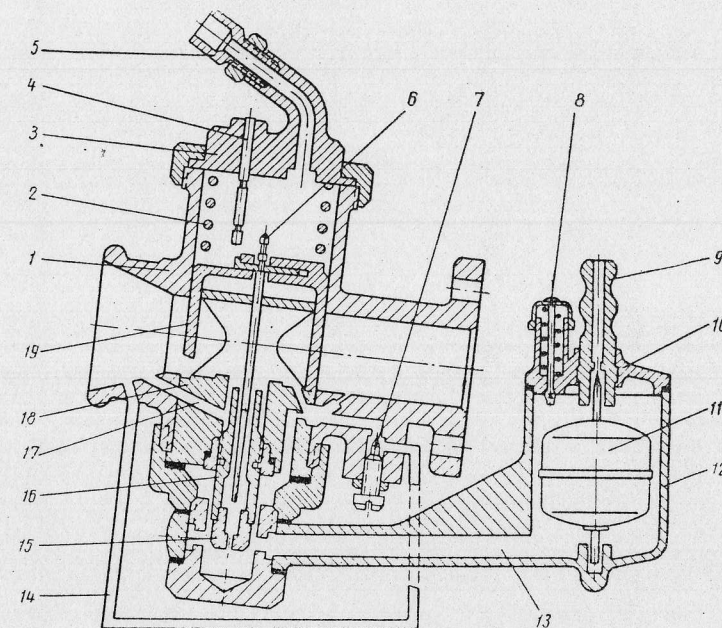

Fig. 9. Carburetter Diagram:
**Start-up of engine and idling.** Gasoline from the gasoline cock is delivered to float chamber 12 (Fig. 9), fuel passage 13, atomizer hollow, idle speed duct in jet chamber 18 and settles on the level of gasoline in the float chamber.